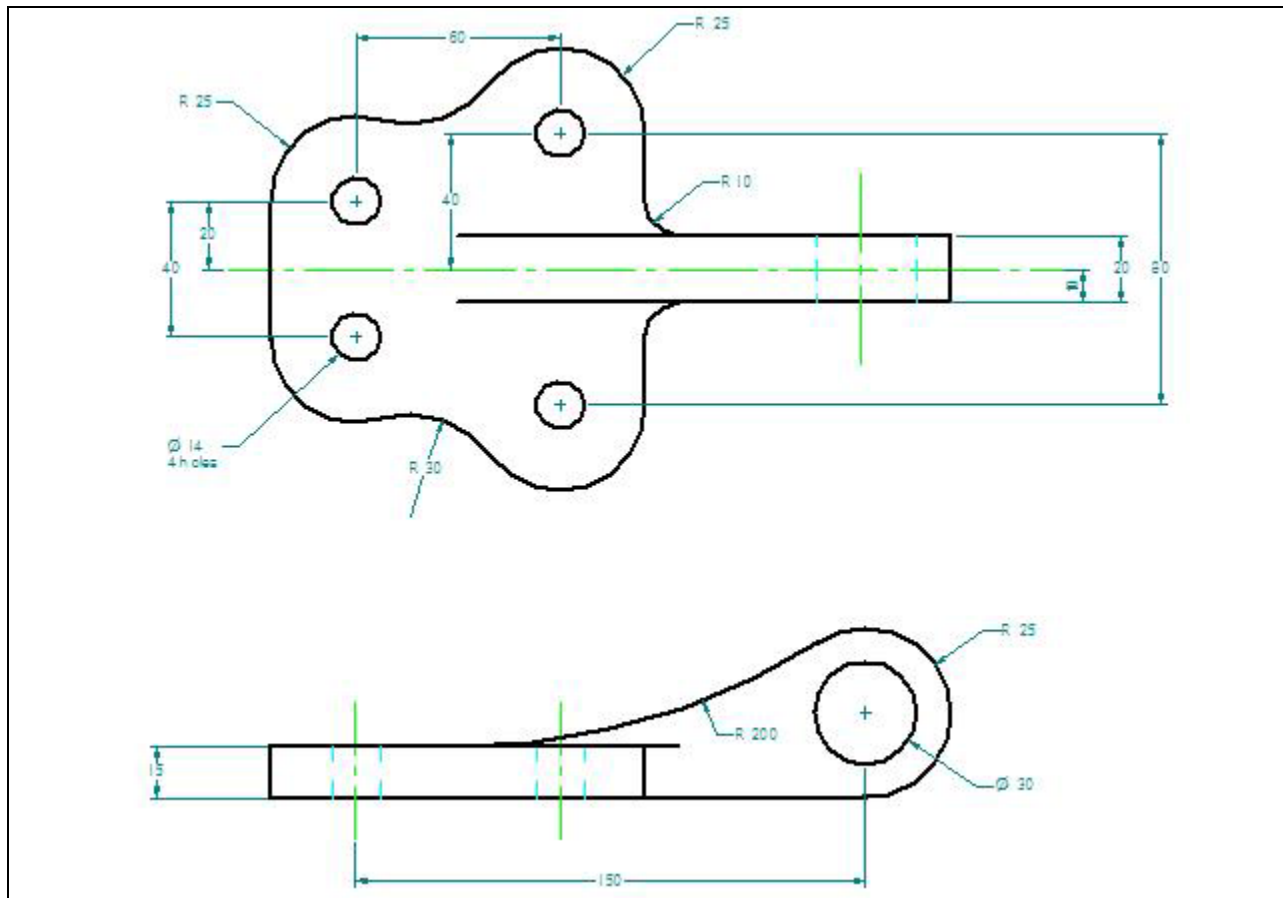

Figure 11.9 – Finished Dimensioned Bracket Problem
*** World Class CAD Challenge 22-22 * - Create a New file using the Metric template and draw the 66 entities shown in figure 11.9 in 10 minutes. Continue this drill four times, each time completing the drawing in less than 10 minutes to maintain your World Class ranking.**